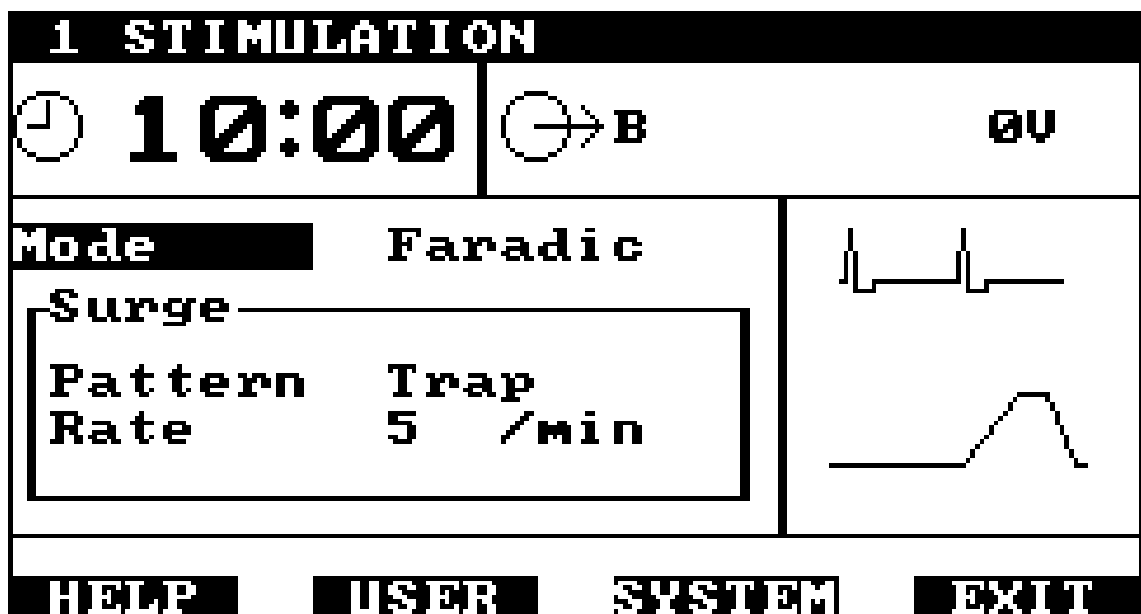

Figure 17 - Faradic set-up screen
14. In faradic mode, the remaining options determine how the output is surged during treatment. The graphic display on the right hand side of the display shows faradic pulses at the top and at the bottom, a graph showing how the output amplitude varies with time during one surge cycle starting with the rest period (figure 17).